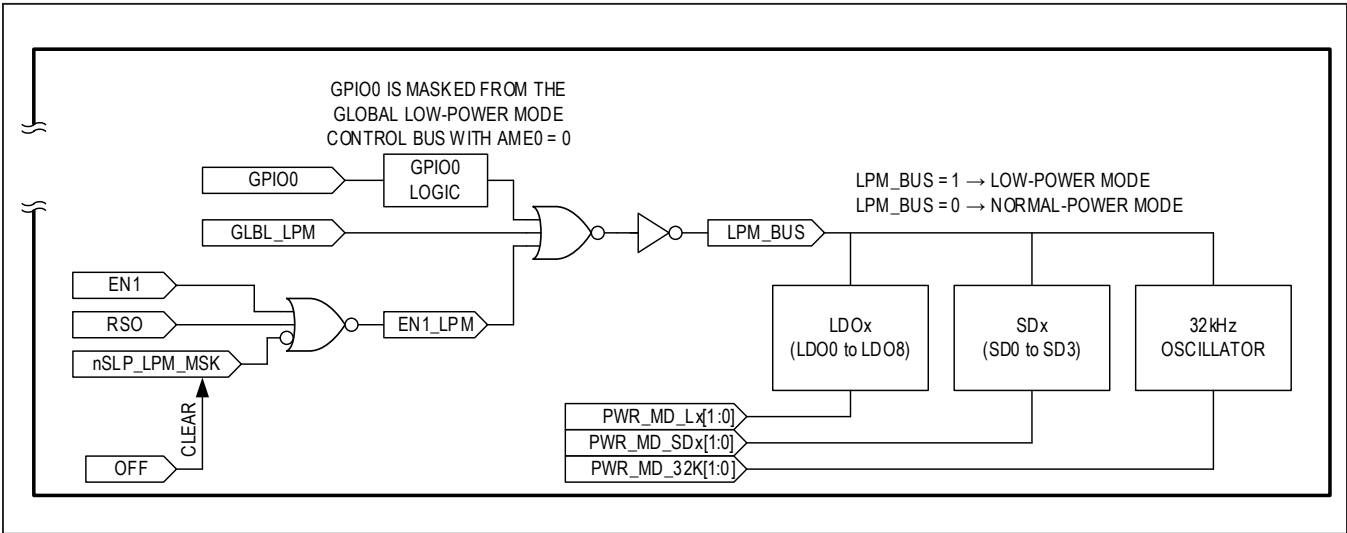

Figure 8. Simplified Logic for Global Low-Power Mode
All step-down regulators, linear regulators, and the 32kHz oscillator have low-power modes. Each block containing low-power mode allows for the power mode to be controlled individually or for the power mode to be controlled globally with the global low-power mode bit (GLBL\_LPM), or GPIO0 when it is set in its alternative mode, or the EN1 hardware input. See Figure 8 for the simplified logic.
The logic shown in Figure 8 allows EN1 to control the low-power mode bus (LPM\_BUS). With LPM\_BUS = 1, any peripheral (32kHz oscillator (OSC), linear regulator (LDO), or step-down regulator (SD)) with its power mode bits programmed to 0b01 (PWR\_MD\_xx[1:0] = 0b01) are in low-power mode when LPM\_BUS = 1.